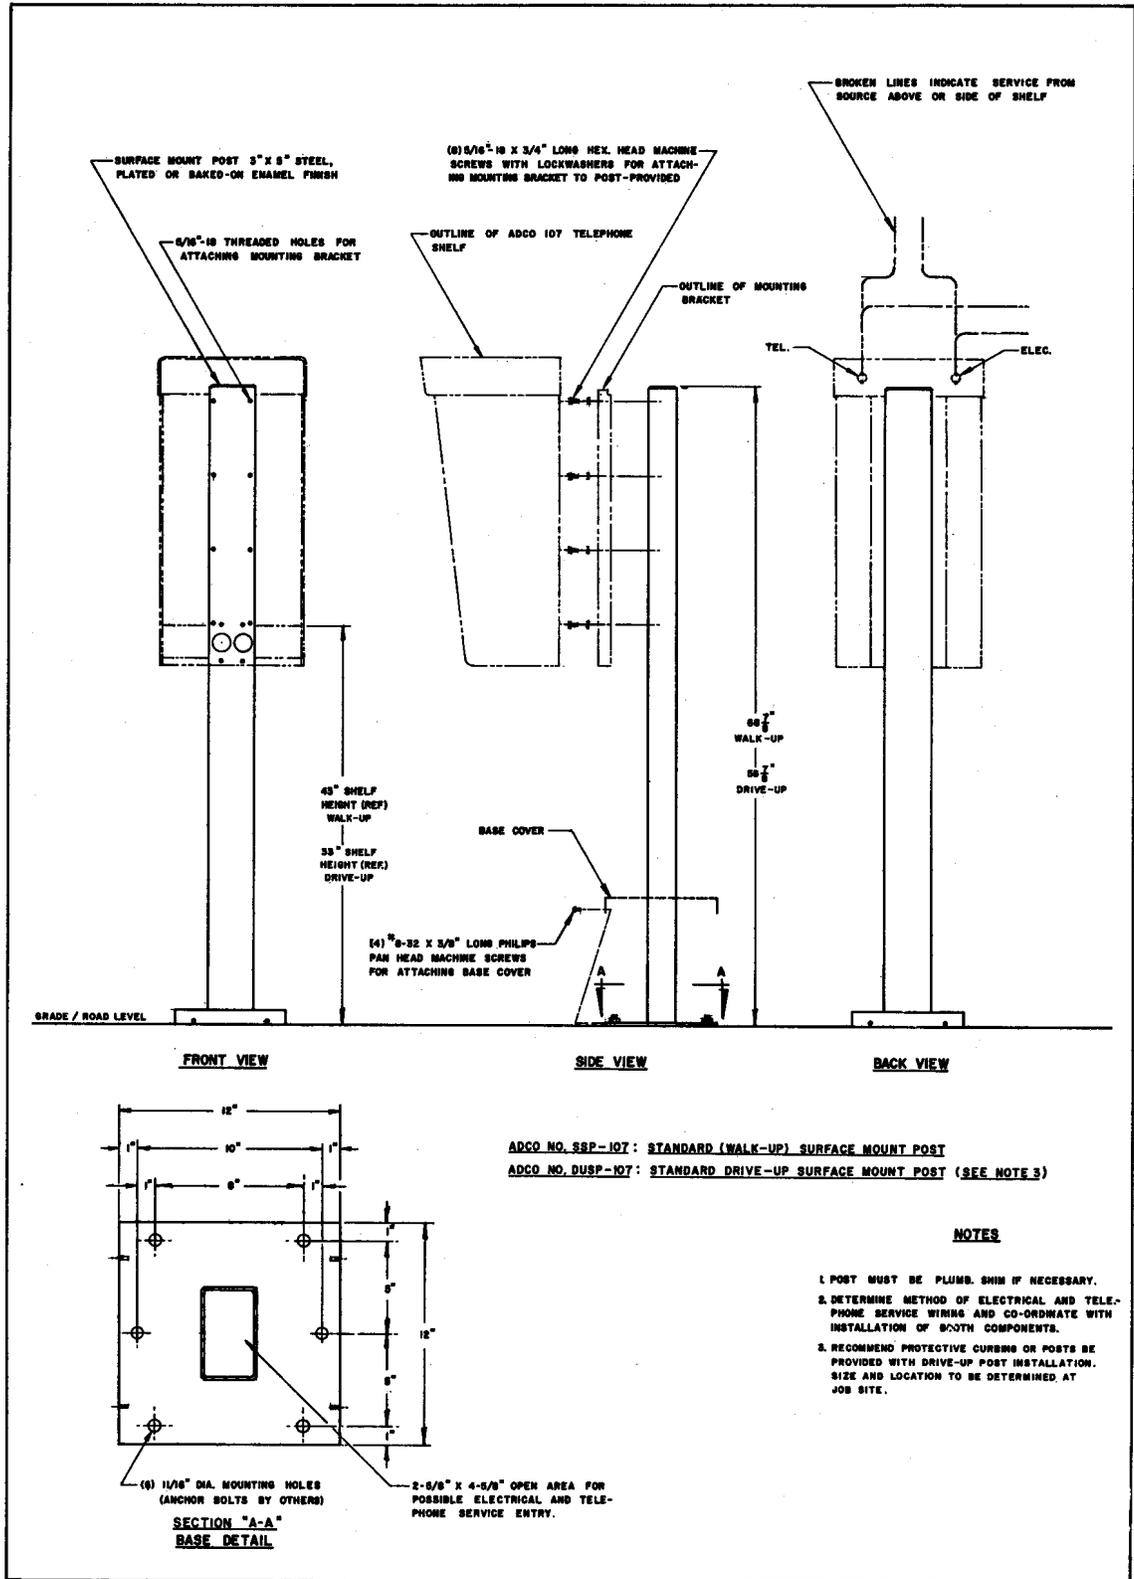

Fig. 5
- 4.05 Details of a surface mount post installation are shown in Fig. 5.